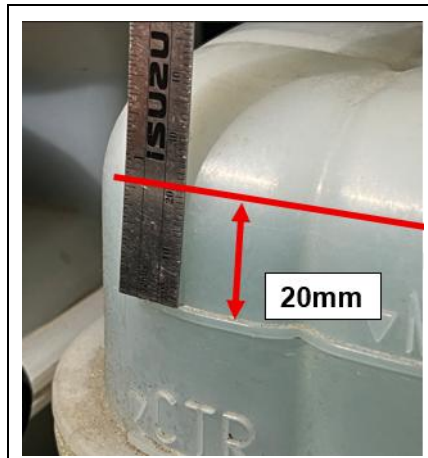

Figure 13
29. Once “Flood Mode” has completed, top off the HV battery cooling system reservoir level 20mm (3/4”) above the “MAX” line as shown in Figure 13.